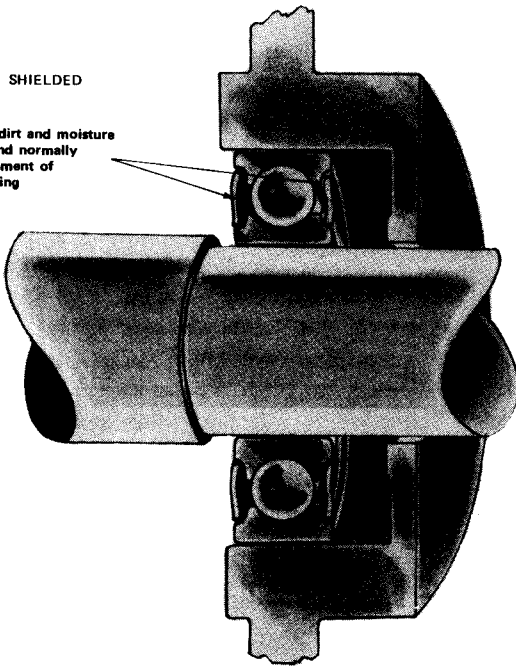

FIGURE 1-6 TYPICAL SEALED BEARINGS AND BEARING HOUSING CONSTRUCTION
1.3.12 Bearings on most Kato Generator Sets under 75 KW in size with a 14 inch diameter or smaller stator, are of the fully shielded type, illustrated in figure 1-6. These bearings do not require periodic replenishment of grease. Repacking at major overhaul of the generator or prime mover is generally a good preventive maintenance practice. Additional information is contained in paragraph 4.14.2, page 15.